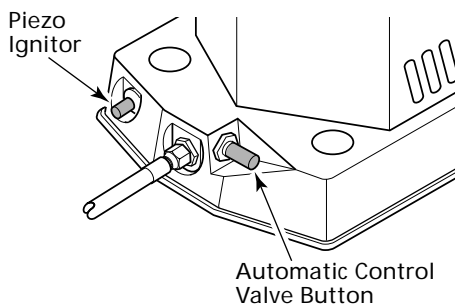

Figure 5 - Automatic Control Valve Button and Piezo Ignitor Button Locations
6. Push in and hold automatic control valve button (See Figure 5). Press and release piezo ignitor button (See Figure 5). Keep pressing piezo ignitor button until the burner lights. Hold control knob down for a maximum of 10 seconds while attempting ignition. If heater does not ignite, release control knob and wait 3 minutes before attempting reignition.